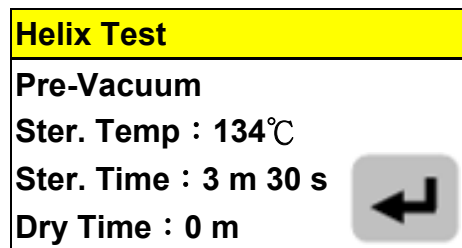

Figure 104
- E. Press  button to confirm the selection of Helix Test Program, as shown in Figure 104.